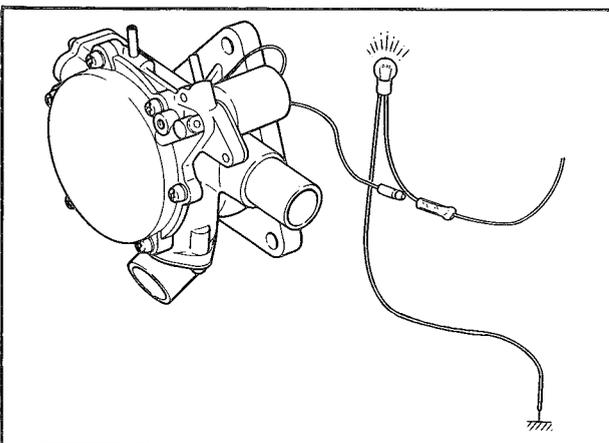

Fig. 1A-31 Checking warning system
3. Start the engine and keep it running at idle speed. Make sure that the warning light is on at this time. 4. Remove the coupler from the air control valve, connect the test lamp as shown in Fig. 1A-31.